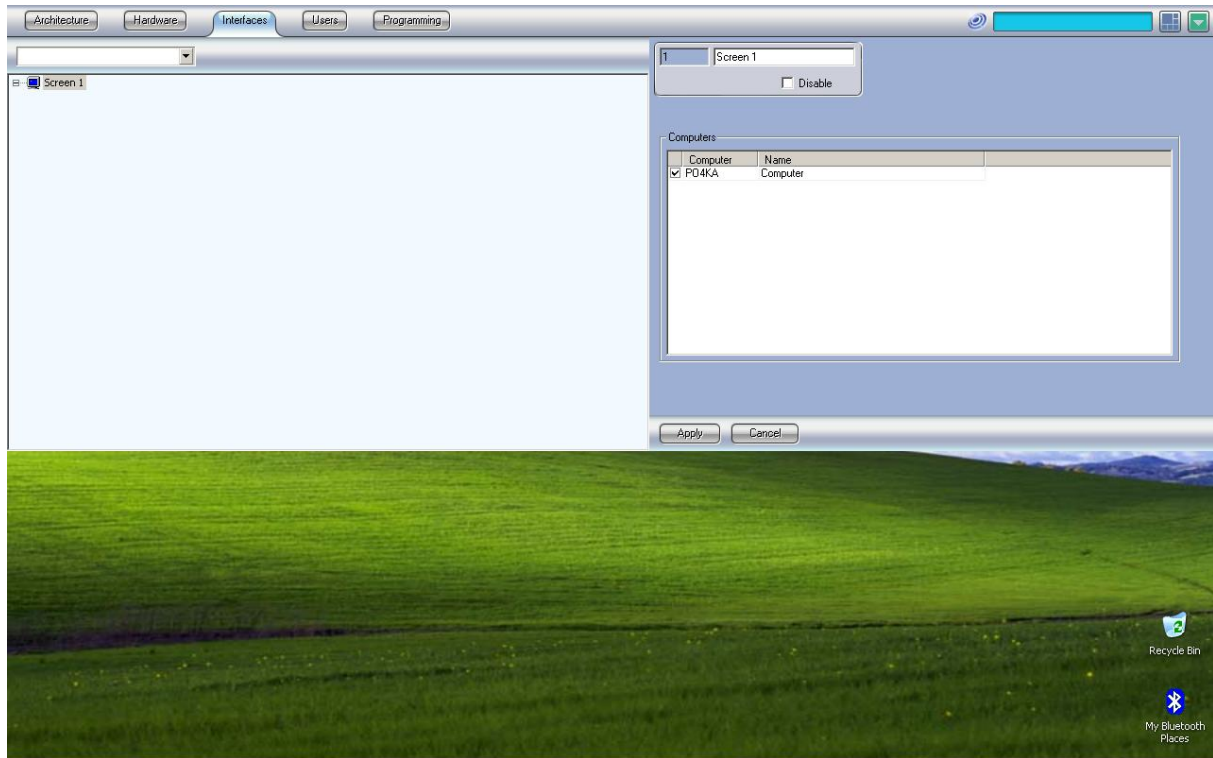

fig.16
1) From the “System settings → Interfaces” tab create the “Screen” object using the button “Apply”. The result of this action is shown on fig. 16.
2) After we have created the screen object we have to activate it. This is done by checking the box from the list “Computers” (fig. 16). In this way we match the created object with the computer display.